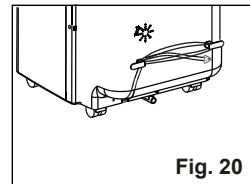

Fig. 20
3. Power OFF the unit, unplug it from the wall receptacle and wind the power cord around the cord caddy (Fig. 20). Don't forget to remove the batteries from the remote and store them in a separate plastic bag.